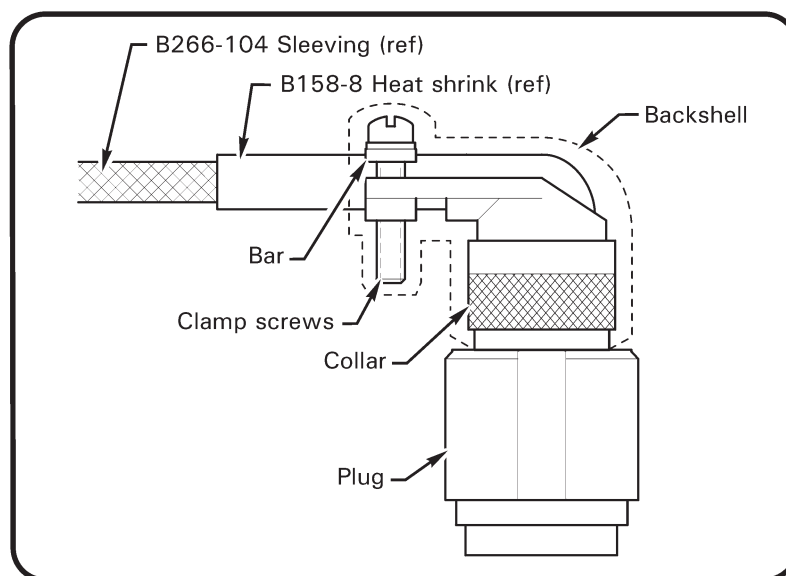

FIGURE 1 D38999/26FC35SN plug
3. Refer to Illustrated Parts Catalog (IPC) Figure 71-3 and Figure 1. Locate D38999/26FC35SN plug on F059-01 (cabin) electrical harness. Remove and retain clamp screws & bar from backshell and loosen (backshell) collar. Disconnect F059 cabin harness plug from F049 engine harness receptacle. Remove ty-raps securing F059 harness wires to wire bundle.
4. Refer to Figure 1. Carefully route socket of KI-223-1948 wire assembly thru B158-8 heat shrink to cabin harness D38999/26FC35SN plug. Install socket in hole 22 of plug. Verify socket security. Tighten collar. Apply B270-20 adhesive to retained clamp screws and install bar to backshell. Torque screws to 40 in-oz.